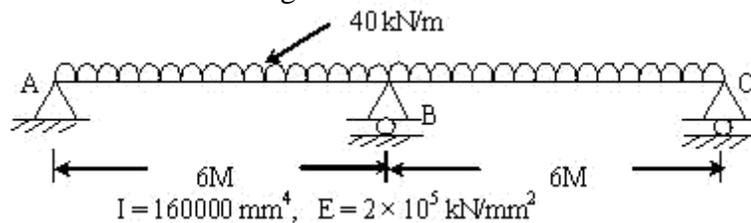

Figure.1
- b) Determine the support reactions and maximum vertical deflection for the continuous beam shown in Figure.1.